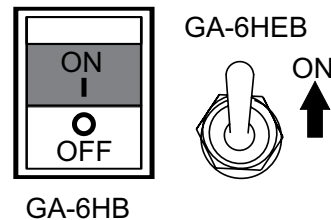

Figure 15. Operation Switch (ON)
4. Place the generator's operation switch (Figure 15) in the **ON** position.